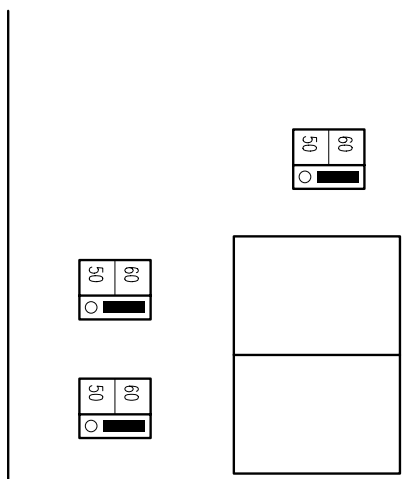

Figure 3.4: 60Hz jumper locations
- Change the three jumpers on the main circuit card as shown in Figure 3.4